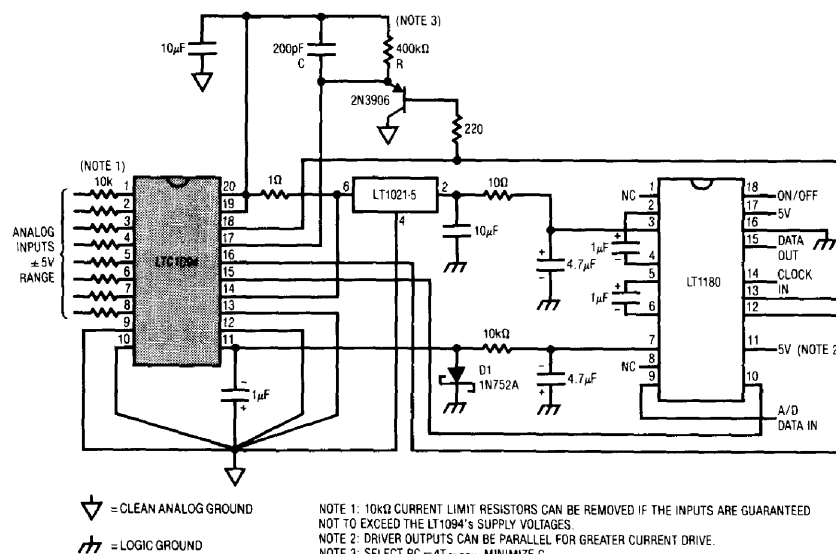

Figure 1. A/D Converter Interface
The LT1180 RS232 transceiver includes a charge pump which produces low ripple supplies with sufficient surplus current to drive a CMOS A to D converter and precision voltage reference. The circuit in Figure 1 operates from a single 5V supply, and draws a total quiescent current of only 37mA. These features make the circuit ideal for applications which must process bipolar signals with minimal support electronics.
**Note 3:** The LTC1094 in Figure 1 was directly replaced with an LTC1294, with no changes to the circuit.